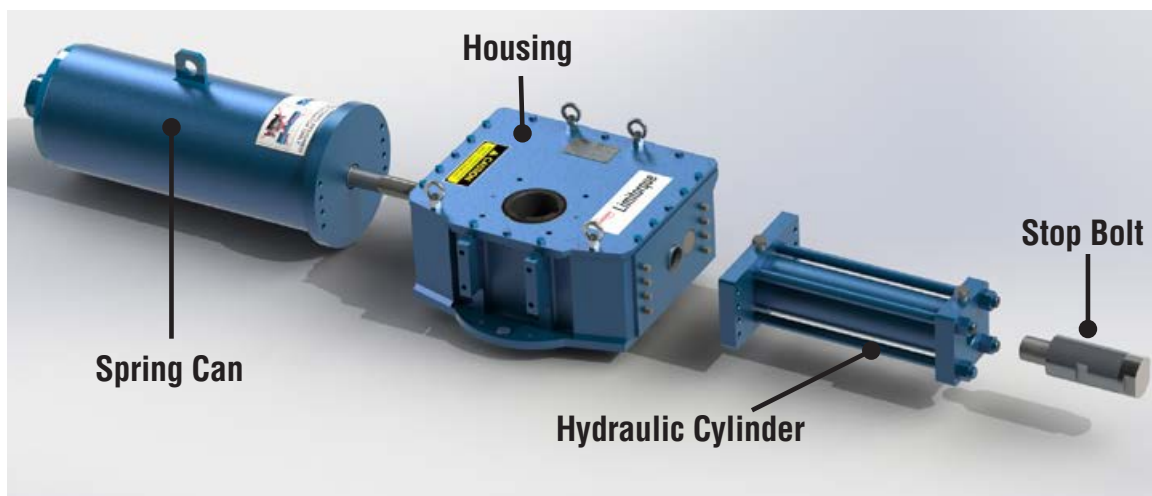

Figure 21: Single Acting Actuator
The LHS/LHH Series actuator is available in two different configurations, single acting and double acting, composed by the main parts shown in Figure 21: Single Acting Actuator.
- 4.1.3 The reference drawings for the instructions reported in the following paragraphs are the exploded views of single acting and double acting actuators, included as Figures 21, 22, 23 and 24.